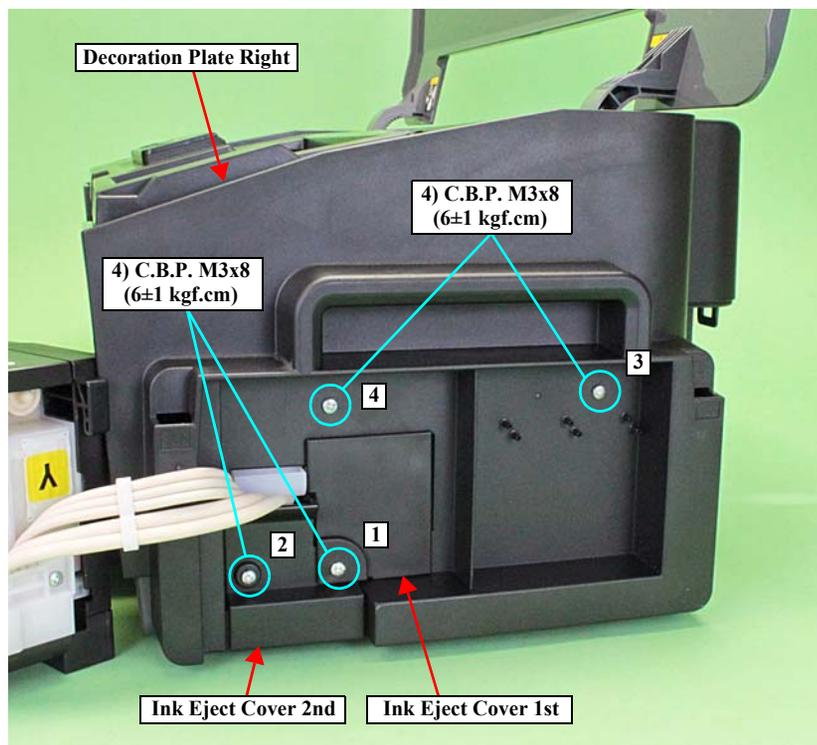

Figure 3-22. Removing the Decoration Plate Left/Right (1)
- For the Decoration Plate Right, Ink Eject Cover 2nd, and Ink Eject Cover 1st, screw in the order given in Figure 3-22.